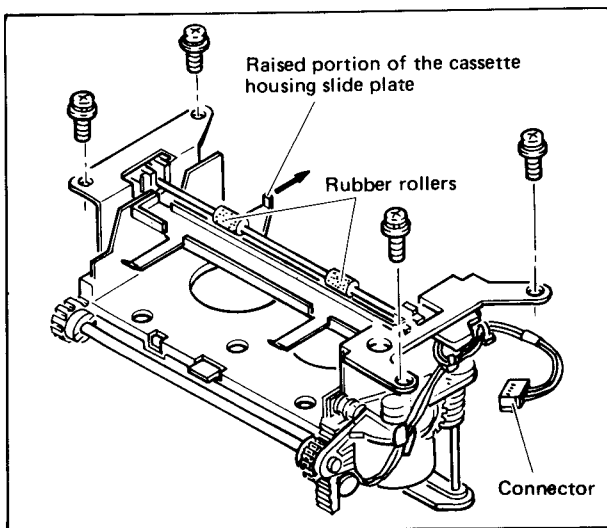

Fig. 4-9
4. Take out four screws and carefully remove the cassette housing assembly as shown in Fig. 4-9.